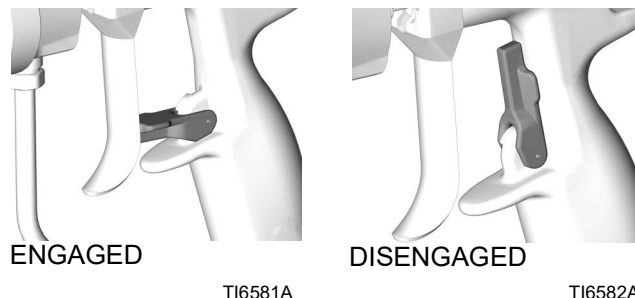

FIG. 12
1. Engage the trigger lock. See FIG. 12.
4. Disengage the trigger lock. See FIG. 12.
7. Engage the trigger lock. See FIG. 12.